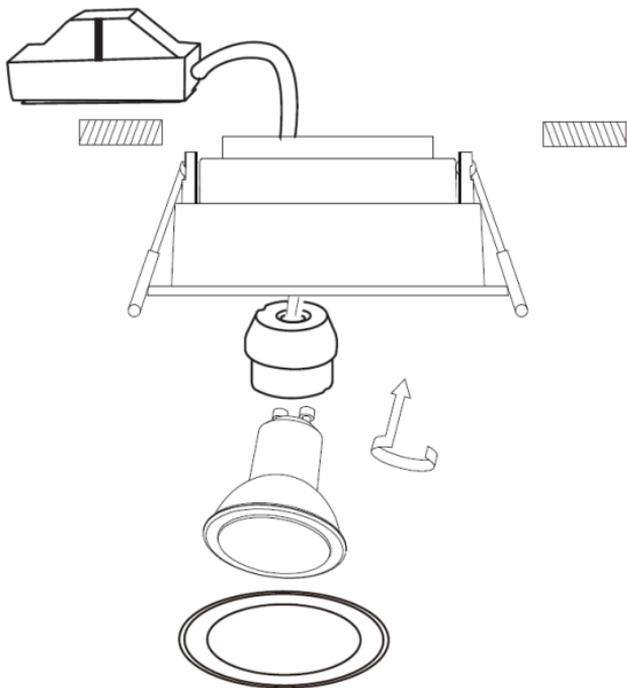

Fig. 3
- Remove the inner bezel by pulling it down and insert a suitable LED GU10 lamp (see Fig. 3)